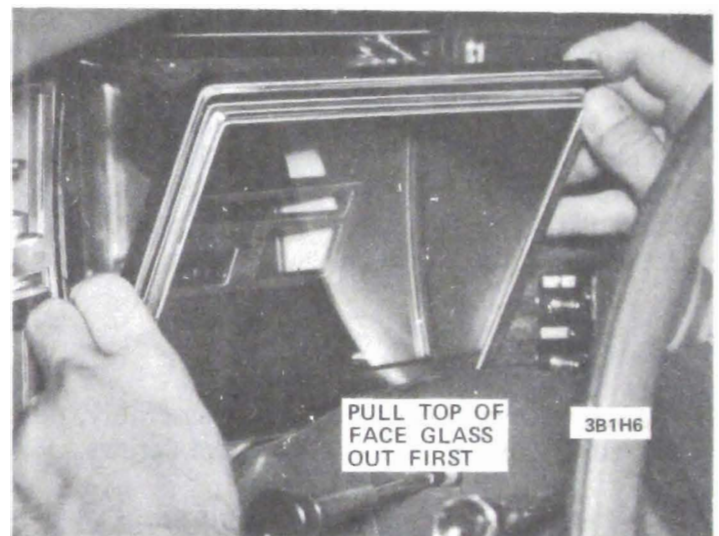

Figure 1H-6 Removing Instrument Bezel
4. Remove two instrument bezel screws and rotate bezel out of I.P. See Figure 1H-6.
5. Remove three speedometer assembly attaching screws and lift speedometer out of I.P. See Figure 1H-7.